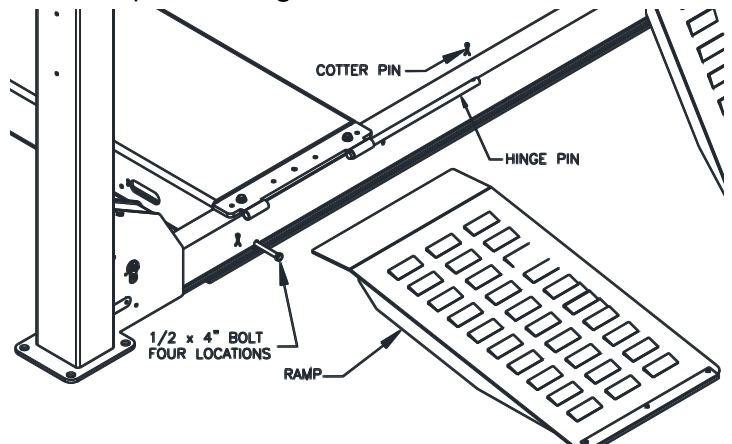

Fig 30 – Crossbeam Bolts and Ramp Install
- 85) Install the four 1/2-13 x 4" bolts through front and rear crossbeam and into the runways. Torque to 60-80 foot pounds. See **Fig 30**.
86) Assemble each Ramp using the hinge pins and cotter pins. See **Fig 30**.